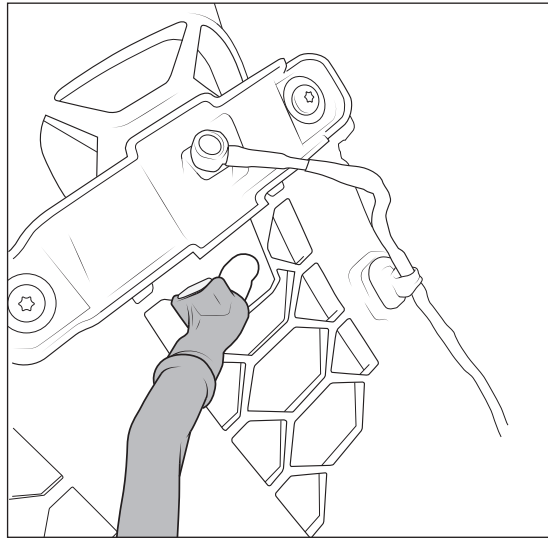

Figure 3
- C. Once the grill is loose, lean it forward to access the camera connections. Squeeze the quick connect at the washer nozzle to disconnect it and then the wiring connector from the grill (fig. 3).